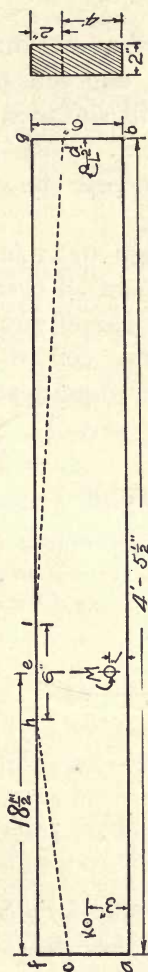

FIG. 94. — THREE HORSE EVENER.
1. Laying out evener. — Lay out point *c* $2''$ from point *f*, Fig. 94. Lay out point *d* $2''$ from point *g* at the other end. Square across both ends at these points. Lay out point *e* $18\frac{1}{2}''$ from *f* and square across one surface. $3''$ from *e* on either side locate
4. **Sawing and boring.** — Bore ¾'' holes at *K* and *L* and 1'' hole at *M* (Fig. 94). Bore ½'' holes at *K* and *L* and ¾'' hole at *M* (Fig. 95). Bore ½'' hole at *M* (Fig. 96).
Rip along the lines *ch* and *di* in Figs. 94, 95, 96, and plane smooth.